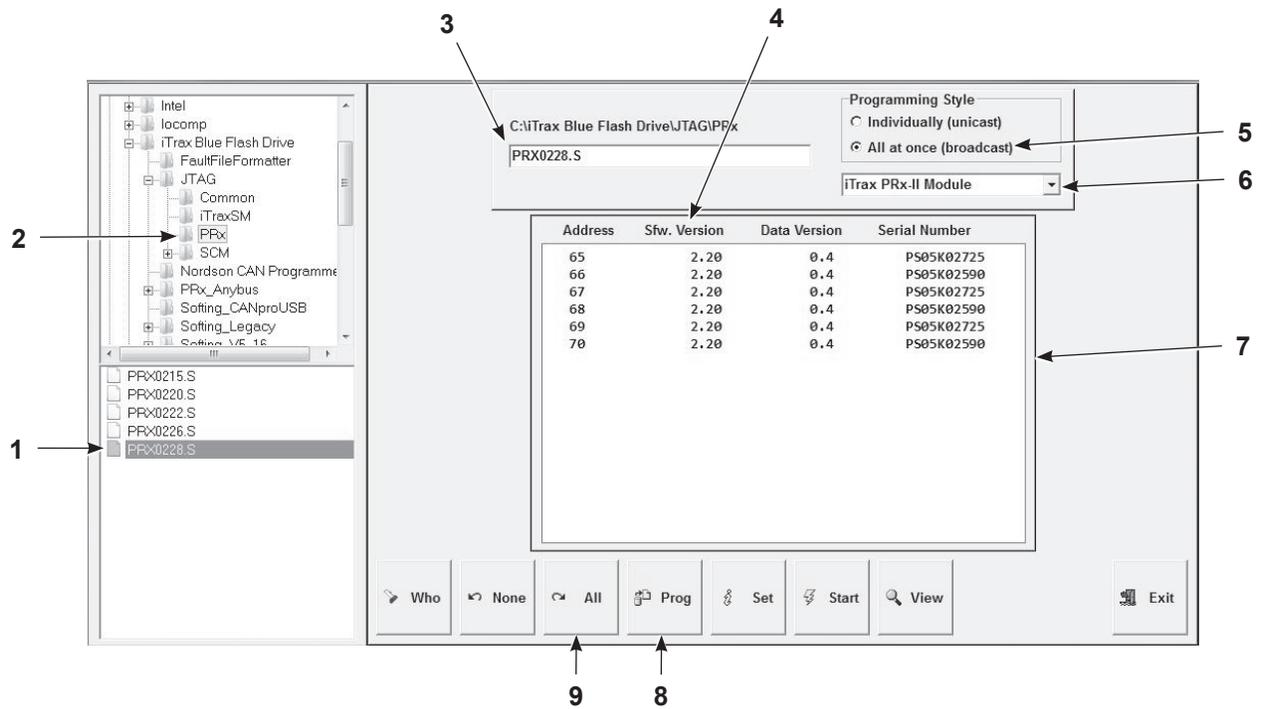

Figure 13 CAN Programmer Main Screen
See Figure 13.
3. See Figure 13. Select PRx-II Module from the list box (6). Once selected, the module address listing (7) will show selections for the PRx II.